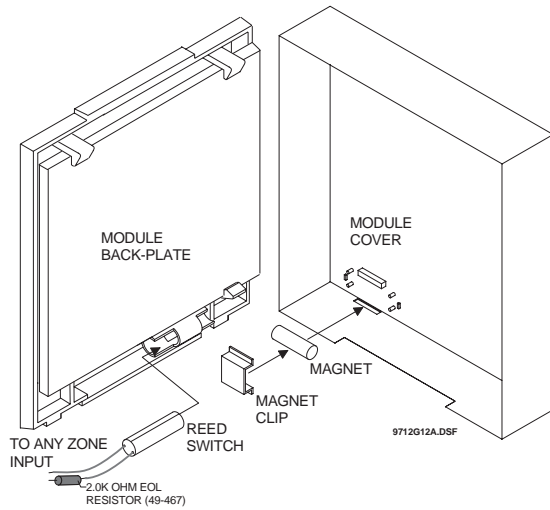

Figure 7. Installing the Optional Reed Switch
### To install the tamper reed switch (Figure 7):
1. Slide the reed switch into the reed switch holder located on the module back-plate as shown in Figure 7.
- Insert the magnet into the nibs on the module cover. Remove the magnet clip from the module back-plate and press the magnet clip down over the magnet until it clicks into place (Figure 7).